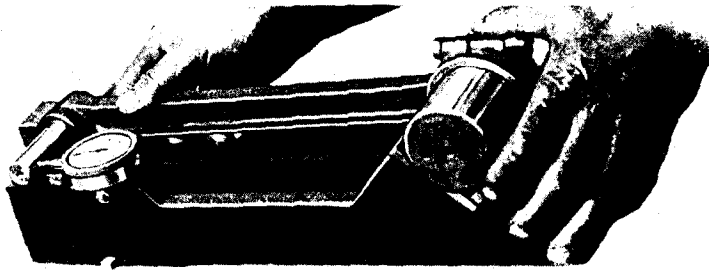

Fig. 18.—Aligning Straight Connecting Rod with Gauge 71969
Description: Figs. 18 and 19. Consists of a cast-iron base with machined V-blocks; a dial indicator; arbors for both ends of the connecting rods; and a support for the dial indicator when using the bottom of the base as a surface plate. Includes six arbors of the following diameters:
Directions for Use: (1) Alignment of straight rod: Select a large arbor of the correct diameter and clamp it in the large end of the rod. Lightly force the small arbor through the wrist pin bushing. Set the dial indicator in place, as shown in Fig. 18. Make sure that the arbors and the bearing surfaces on the gauge are clean, and place the rod with its arbors in the gauge.